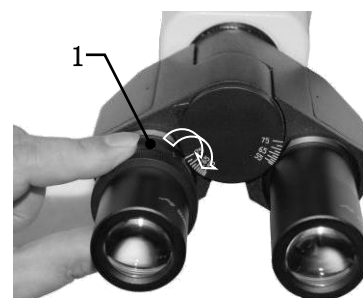

Fig.12
(1) Turn 40X objective into optical path, observe micro-image in right eyepiece which the eyepiece tube has no diopter adjusting ring, and focus to make micro-image clear
(2) Observe micro-image in left eyepiece only. If the image unclear, it is necessary to adjust the diopter adjusting ring 1 to make image clear. The diopter adjusting range is $N=\pm 5$ diopters, as shown in Fig.12.